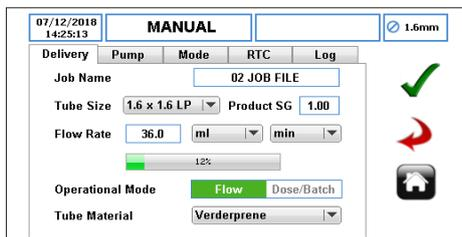

Figure 9 Select the Flow Mode
- ▶ Make sure the Flow Mode is selected as shown in the Figure 9.